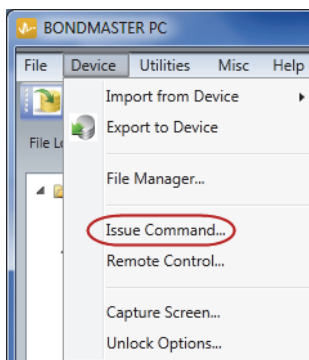

Figure 7-12 The Device menu — Issue Command
1. On the **Device** menu, select **Issue Command** (see Figure 7-12 on page 188).